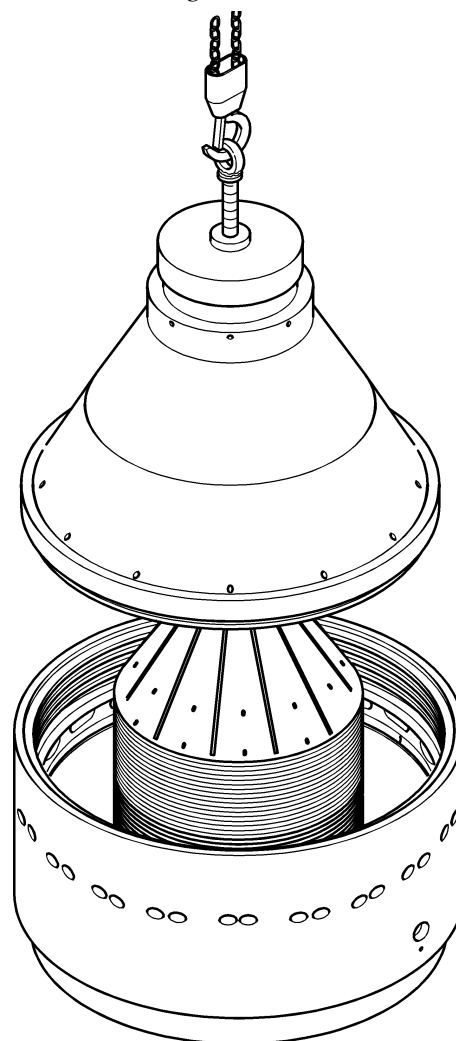
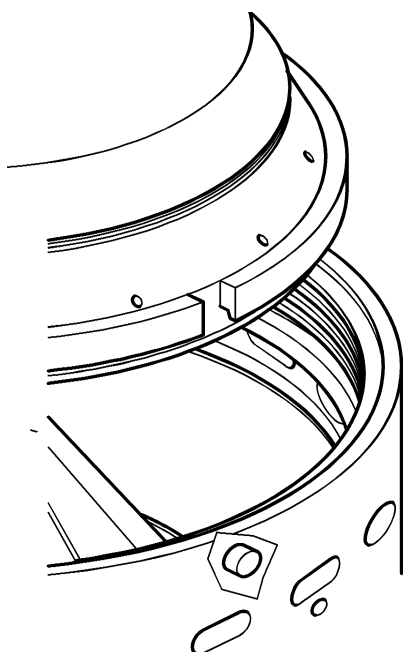

Figure 6.17
Figure 6.18
- Lift the piece by hoist and place it down into the bowl body (fig. 6.17); take care that the “0”marks of the two pieces are aligned; in this way the key forced in the bowl body glides in the corresponding groove of the bowl hood (fig. 6.18).